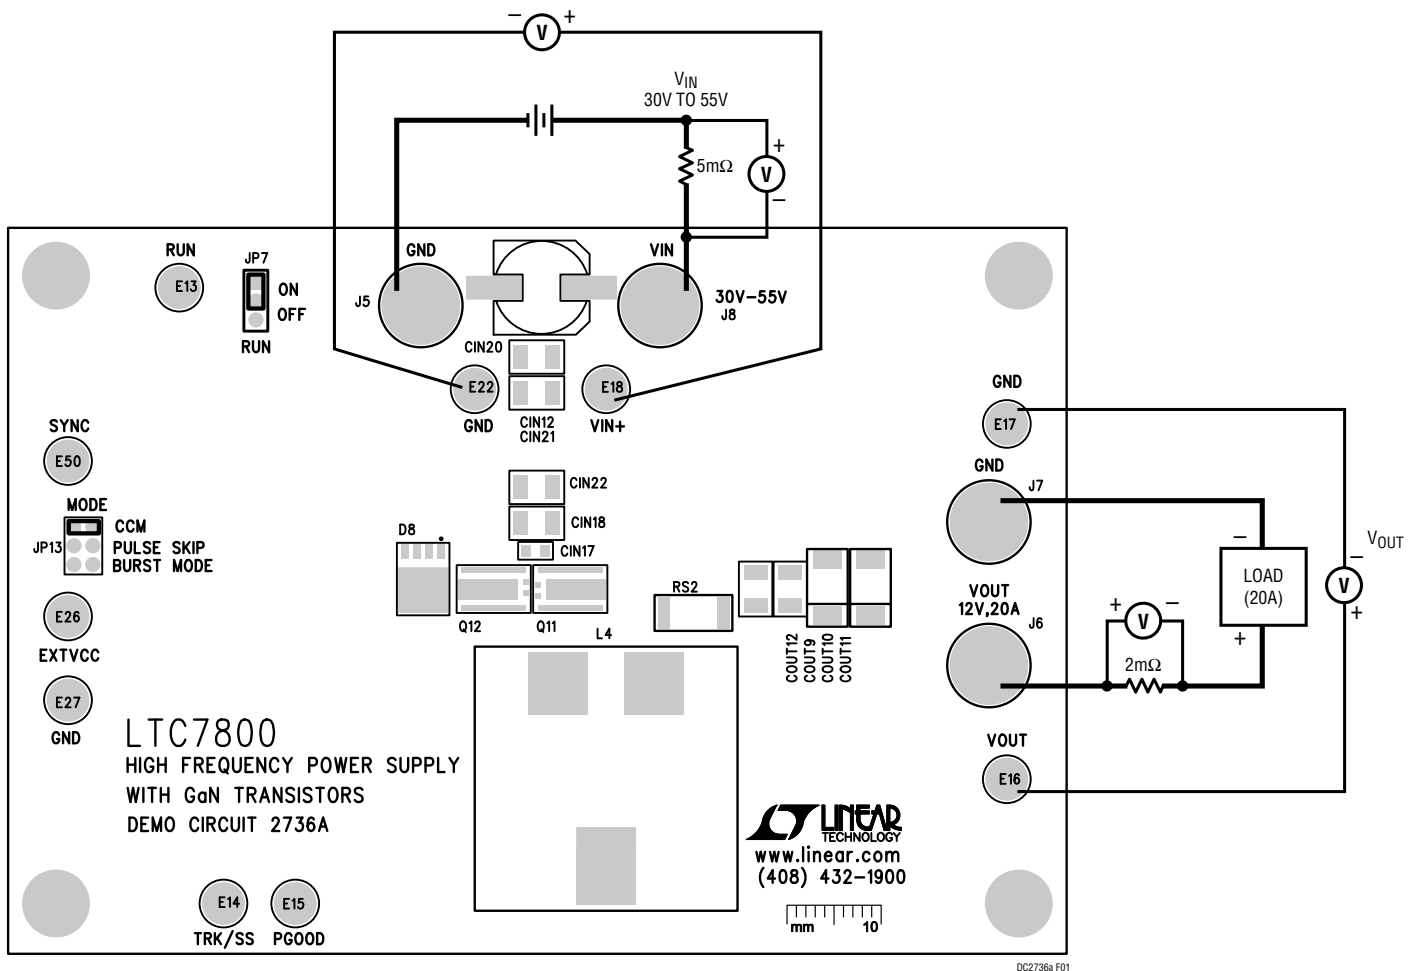

Figure 1. Proper Measurement Equipment Setup
Demonstration circuit 2736A is easy to set up to evaluate the performance of the LTC7800. Refer to Figure 1 for the proper measurement equipment setup and follow the procedure below.
3. Connect the output load between V_{OUT} and GND (Initial load: no load). Refer to Figure 1.